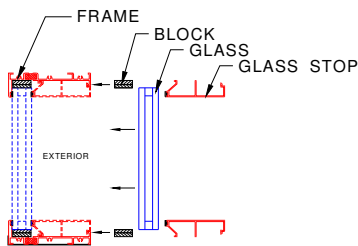

Figure 17
- Insert two setting blocks into the sill at the quarter points (see Fig. 17)